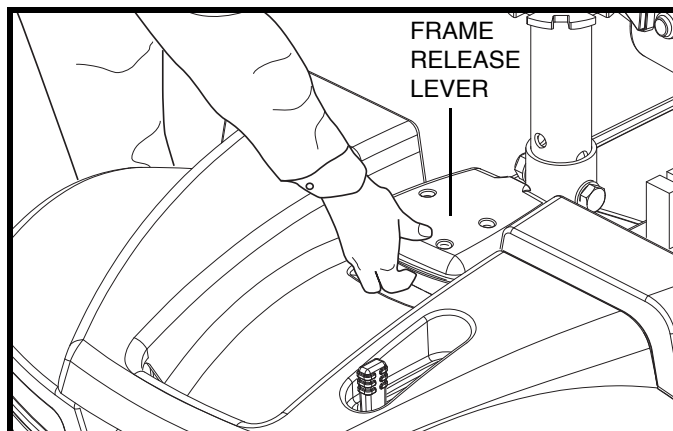

Figure 22. Frame Release Lever
3. Grasp and lift up on the frame release lever. **See figure 22.**
2. Use the frame release lever to lift the front section as you align the frame hooks of the front section with the lower frame tube of the rear section. **See figure 22.**